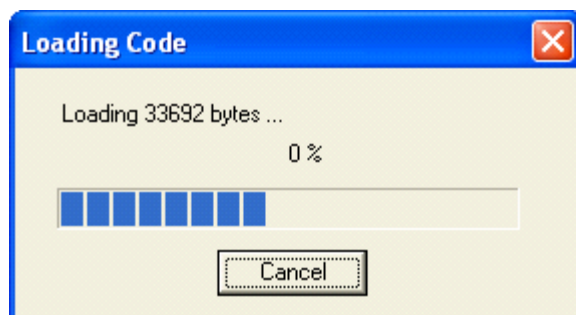

Figure A-7. Loading window
4. The pop-up in Figure A-7 opens to load the built image to JM128 Flash.